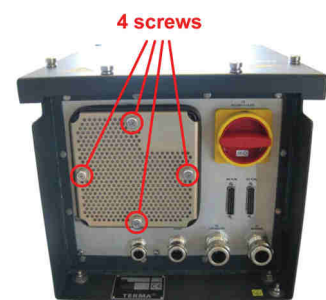

Fig. 7.50 4 screws
- 1 Use a screwdriver (tool 9) and/or fingers to unscrew the four screws holding the filter cover - see location of the screws on Fig. 7.50 \(p. 149\).